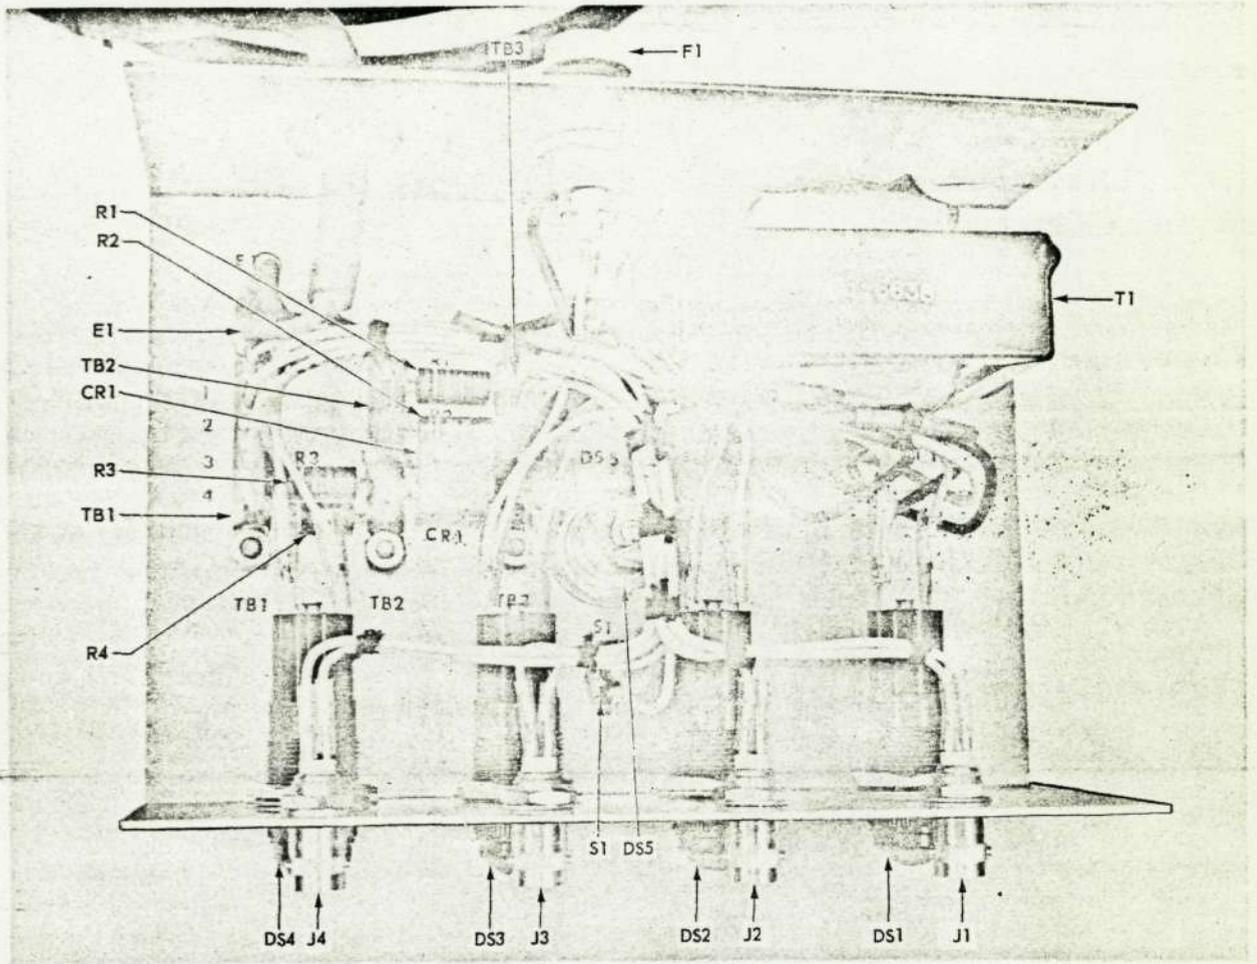

Figure 4-1. Variable Resistor R6 Adjustment Screw
- d. Adjust variable resistor R6 (Figure 4-1) so as to decrease the output, and adjust volume control R1 to increase the output until volume control R1 is at maximum and the output is at 3.8V rms. Omit step e.
- e. With volume control R1 at maximum, adjust variable resistor R6 so as to increase the output to 3.8V rms (Figure 4-1).